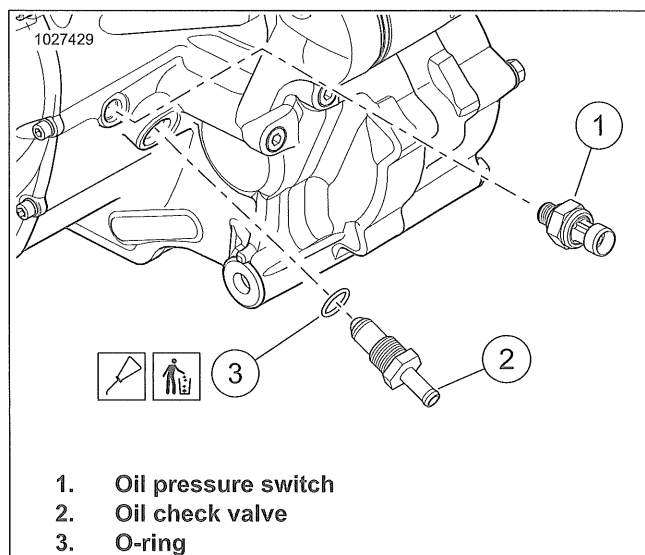

Figure 4-12. Oil Check Valve
2. Remove oil cooler screw (4) and washer (5).
3. See Figure 4-12. Disconnect hose from oil check valve (2).
5. Discard O-ring (3).
1. Lubricate O-ring (3) with fresh oil.
2. See Figure 4-12. Install oil check valve (2) with **new** O-ring. Tighten.